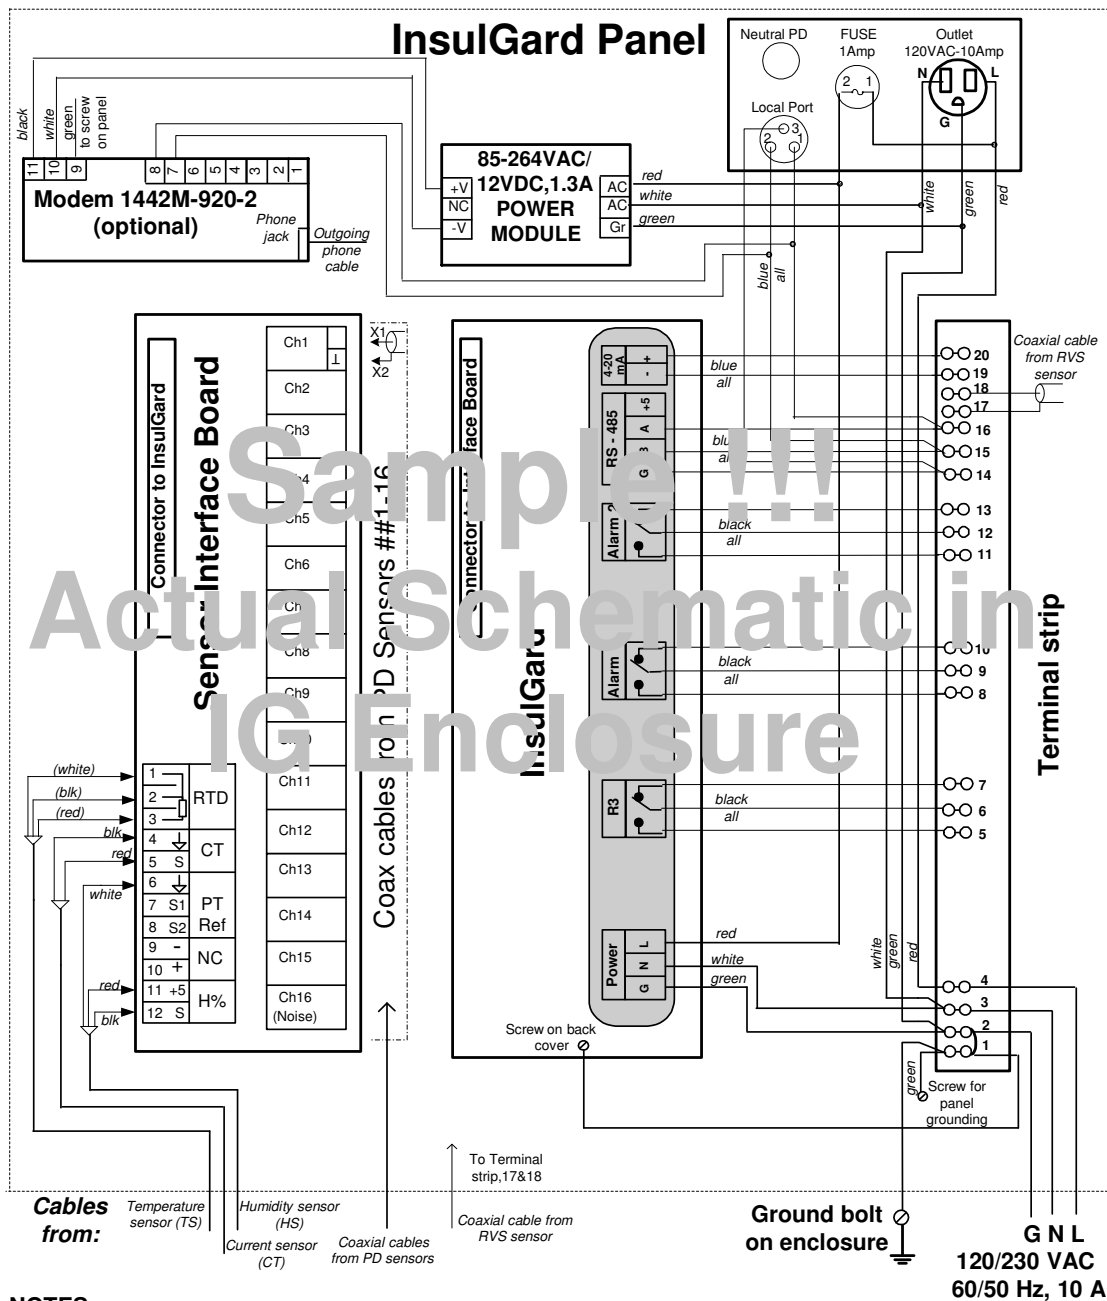

Figure 6-1 Typical connection diagram Pre-Revision 1.
Figures 6.1 (Pre-Revision 1) and 6.2 (Revision 1) give typical connection diagram for panel mount IG option. **These are samples only! Actual wiring diagram is ALWAYS delivered with a device and MUST be used for connections!**
- ♦ **--Sync--** - Loss of synchronization signal. Check the jumpers that are shown in the Figure 6.1 at the Appendix 2 for internal synchronization. Check for synchronizing external signal that should be above 0.4VAC and also refer to the Appendix 2 for correct jumper's configuration. Refer to Appendix 2 of this manual for more details.